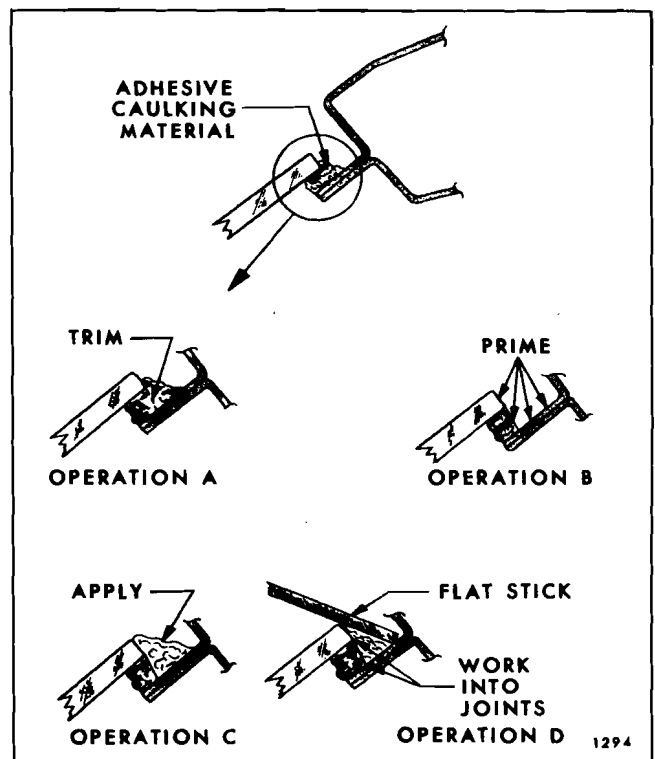

Fig. 4-11—Adhesive Caulked Glass Waterleak Correction
4. Using a sharp knife, trim off uneven edge of adhesive caulking material (see Operation "A" Fig. 4-11) at leak point and 3 to 4 inches on
5. Using a small brush, apply adhesive caulking material primer over trimmed edge of adhesive caulking material and over adjacent painted surface (see Operation "B" Fig. 4-11).
6. Apply adhesive caulking material, as shown in Operation "C" (Fig. 4-11), at leak point and 3 to 4 inches on both sides of leak point or beyond limits of leak area.
7. Immediately after performing step 6, use flat stick or other suitable flat-bladed tool to work adhesive caulking material well into leak point and into joint of original material and body to effect a watertight seal along entire length of material application (See Operation "D" Fig. 4-11).